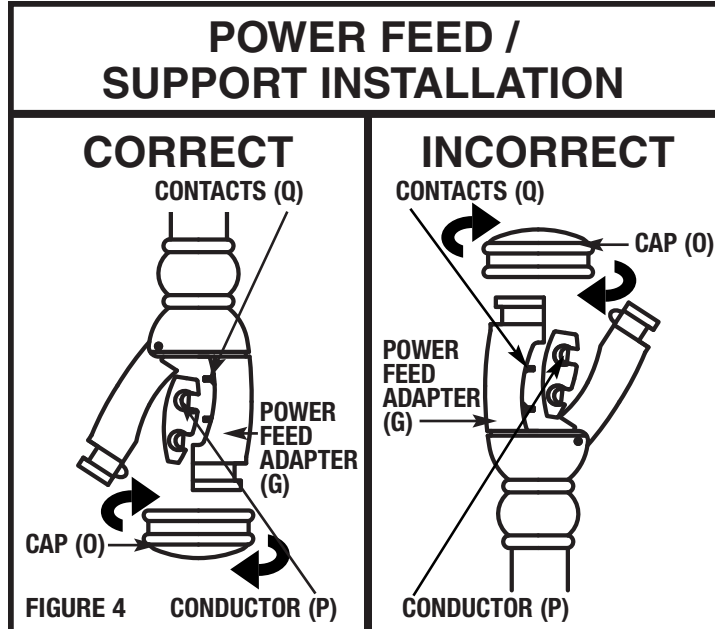

FIGURE 4
INSTALL RAIL ONTO POWER FEED AND SUPPORT (Fig. 4)
1. Remove caps (O) from power feed (G) and rail adapters (H).
2. Install rail into rail adapters so conductors (P) face contacts (Q) of power feed (see Fig 4). *Please make sure contacts (Q) fit into rail conductors (P) properly. NOTE: If power feed or support adapters are not able to close around rail, turn rail around so adapter fits properly.
3. Close adapters (G) over rail. Tighten grounding screw on power feed adapter (G) into rail with phillips head screw driver. Thread caps (O) back onto adapter heads.